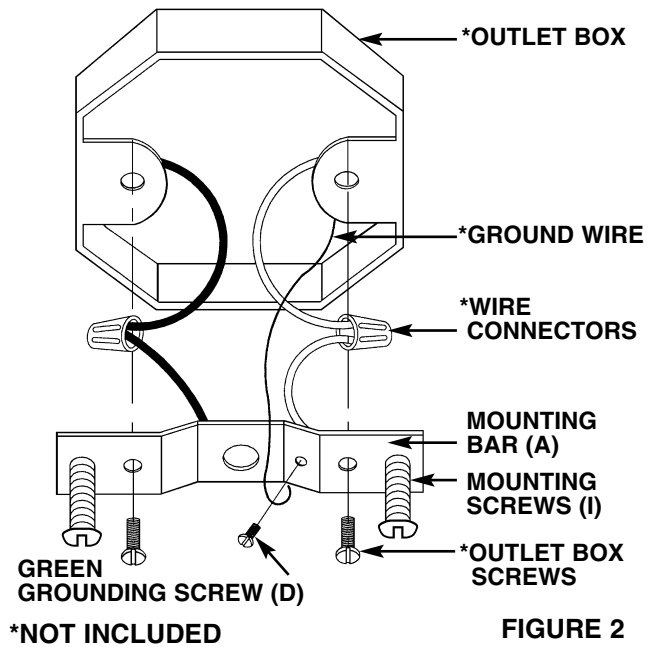

FIGURE 2
GROUNDING INSTRUCTIONS: The green grounding screw (D) is to be inserted into the hole with two raised dimples provided on the mounting bar (A). Wrap the ground wire from the fixture (if supplied) and the ground wire from the outlet box (bare metal or green insulated wire) around the green grounding screw (D) on the mounting bar (A). If uninsulated ground wire is on the mounting bar, connect the ground wire from the fixture (if supplied) and the outlet box to it using a small wire connector (not supplied) (See Figure 2). NOTE: Underwriters Laboratories (U.L.) does not require all fixtures to have ground wires. These fixtures still meet all U.L. specifications. The listing mark of Underwriters on the product identifies products manufactured under its listing and Follow-Up Service Programs.